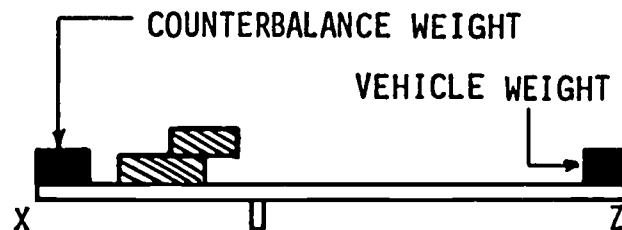

Fig. 14A-6. Placement of Weights
9. Add the number of counterbalance unit weights you figured at end X. See Fig. 14A-6.